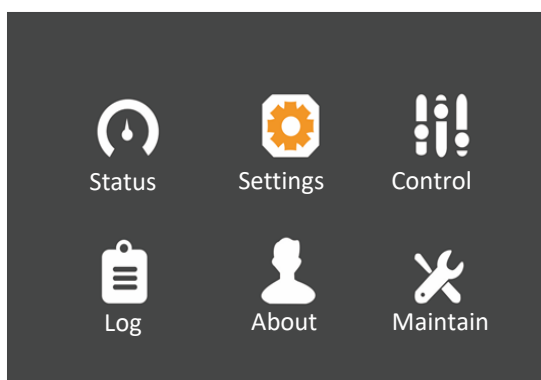

Figure 5-12 Main Menu
1. Access the main menu screen and press the  or  key to switch the cursor to select 'Settings', then press the  key to confirm it. See Figure 5-12.